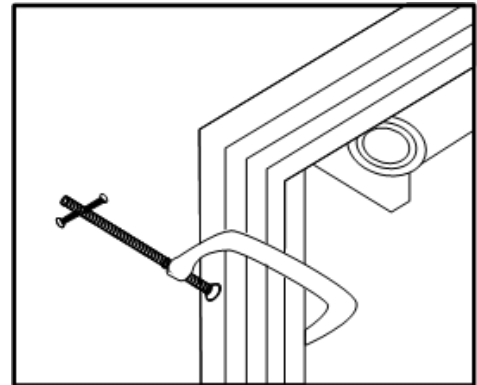

Figure 11: Temporarily Attach the Door
3. Temporarily attached the door with clamps or some other secure method (Figure 11).